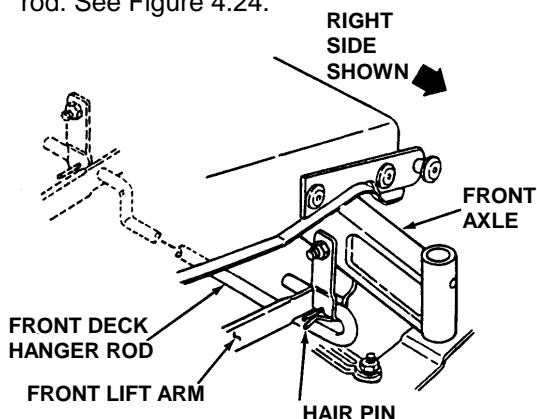

FIGURE 4.24
5. Remove hair pins from the front deck hanger rod. See Figure 4.24.